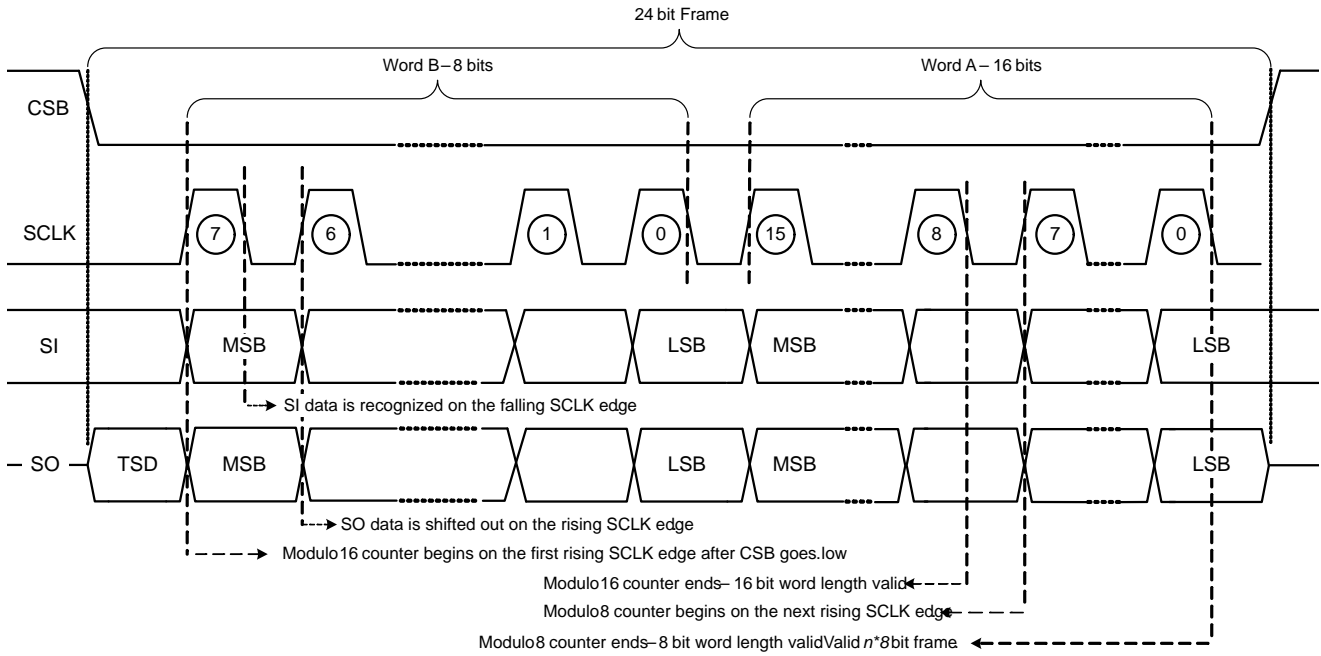

Figure 16. SPI Data Recognition and Frame Detection
Daisy chain communications between multiple of 8-bit SPI compatible IC's is possible by connection of the serial output pin (SO) to the input of the sequential IC (SI). The clock phase and clock polarity respect to the data must be the same for all the devices on the chain. Figure 15 illustrates the hardware configuration of NCV7718B daisy chained with a  $n \times 8$  bit (ie  $n = 2$ ; 16 bit) SPI device. The progression of data from the MCU through the sequential devices is also shown. Strict adherence to the frame format illustrated in Figure 16 is required for the proper serial daisy chain operations.